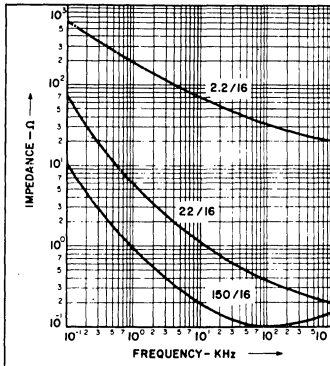

Figure 8
**IMPEDANCE**—Measured at 10KHz and 25°C. See figure 8.